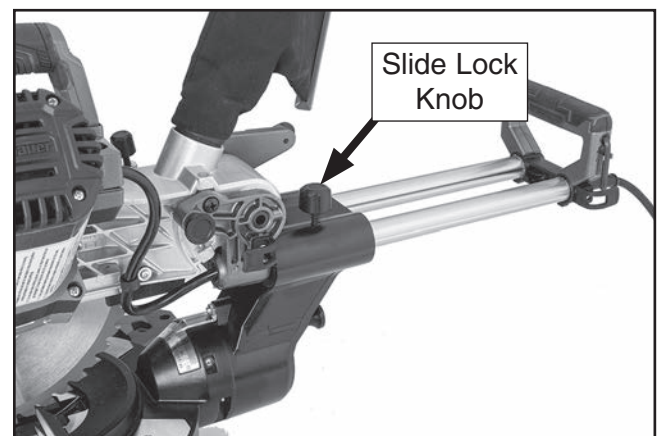

Figure 35. Saw set for plunge cut.
3. Slide cutting head to rear of unit and tighten slide lock knob (see **Figure 35**).